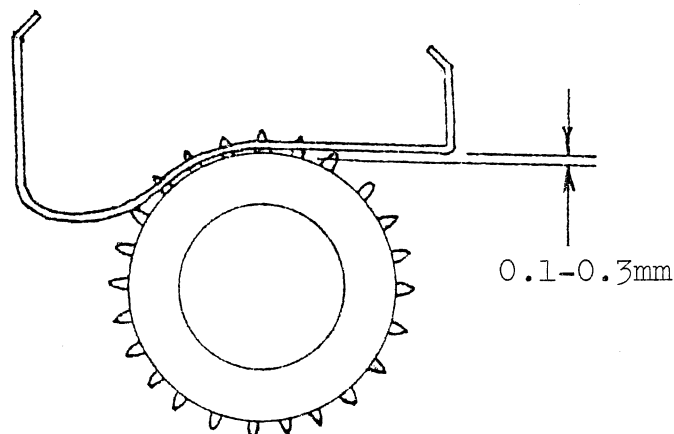

Fig. 5.3 Thrust Pad Clearance
- d) When fitting a new thrust pad, check the clearance between the thrust pad and the sprocket wheel hub (Fig. 5.3) as follows:
36/10150**	Spring for clutch axle (part of 10590, (See Fig. 5.3)